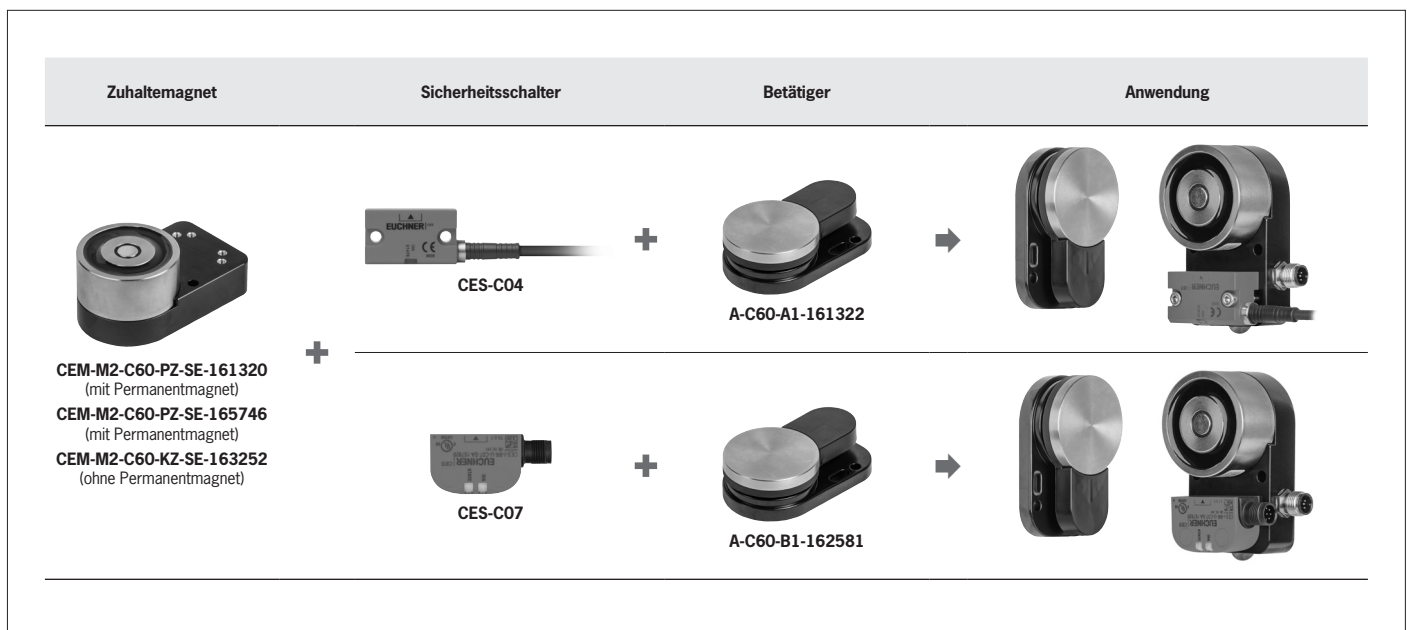

Bild 4: Kombinationsmöglichkeiten
- ▶ The CEM-C60 may be operated only with safety switches from the system family CES-C04 or CES-C07 (see Figure 4 *Combination options* on Page 6).